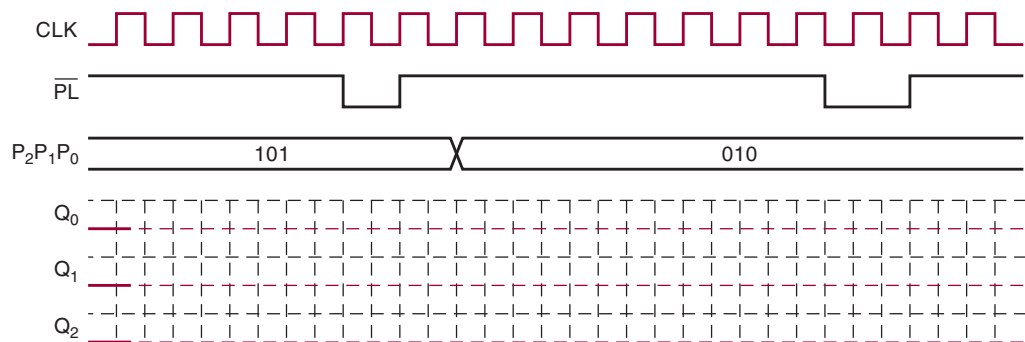

FIGURE 7-102 Problem 7-16 timing diagram.
- 7-16. Complete the timing diagram in Figure 7-102 for the presettable counter in Figure 7-12. Note that the initial condition for the counter is given in the timing diagram.